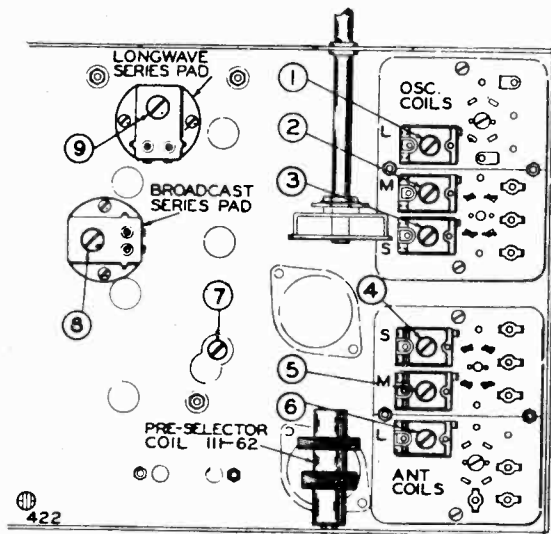

FIG. 3—BOTTOM VIEW SHOWING TRIMMERS
- Set external oscillator to 187 meters (1600 K.C.) and adjust medium wave oscillator trimmer to resonance (adjustment number 2; see bottom view of coil assembly. Fig. 3.)
- Re-set external oscillator to 214 meters (1400 K.C.), rotate variable gang condenser and pick up signal. Adjust medium wave antenna trimmer (Adjustment number 5) to resonance; also adjust preselector trimmer condenser to resonance, (Adjustment number 7; see Bottom View, Fig. 3).
- Re-set external oscillator to 500 meters (600 K.C.), and adjust medium wave series pad to resonance by rotating condenser to approximately 600 K.C., rocking it slowly to and fro until by adjusting series pad maximum output is attained. This adjustment is located on the bottom of the chassis directly under the variable gang condenser. (See bottom view of chassis, Fig. 3, Adjustment 8).